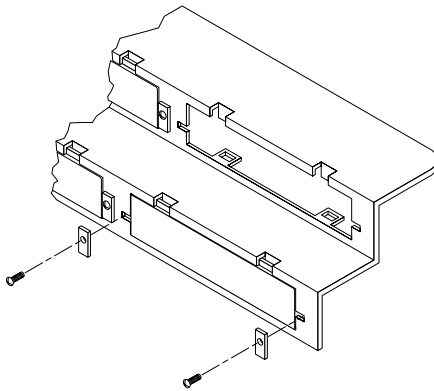

FIGURE 5-32 SBus Card Backpanel Screws and Washers
6. Install the washers and screws you removed earlier into the screw holes adjacent to the SBus card on the back panel using a Phillips screwdriver. The long side of the washer should be oriented vertically. See FIGURE 5-32.